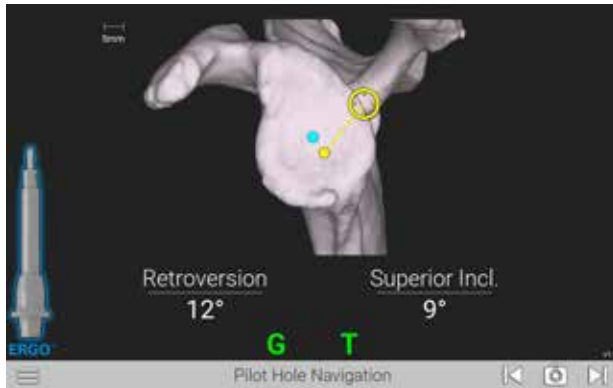

Figure 53a
Follow the on-screen guidance to place the components according to the plan (Figures 53a and 53b). Both the pilot hole and k-wire insertion screens are guided in a similar fashion with real-time feedback on the position of the Driver and K-wire Guide.
- For positioning of the Drill, the tip of the Drill is indicated by a yellow dot (Figures 53a and 53b).
- The planned position is indicated by a blue dot (Figure 53a).